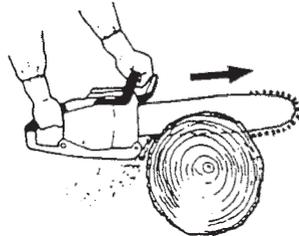

Fig. 17
- Never use the saw with only one hand. You cannot control the saw properly and you may lose control and injure yourself severely. Keep the saw body close to your body to improve control and reduce strain. When cutting with the bottom part of the chain the reactive force will pull the saw away from you towards the wood you are cutting. The saw will control the feeding speed and sawdust will be directed towards you. (Fig. 17)